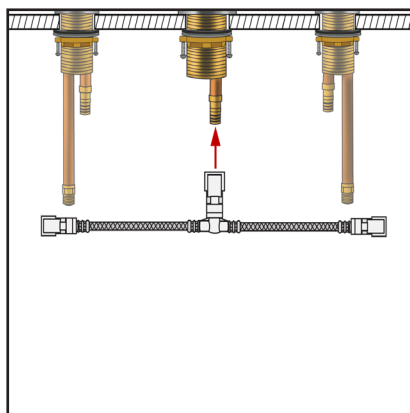

Figure 4
5. Attach the tee to supply hose pipe of the faucet body by inserting the tee onto the end of the supply hose pipe until it will go up no further (**Figure 4**).